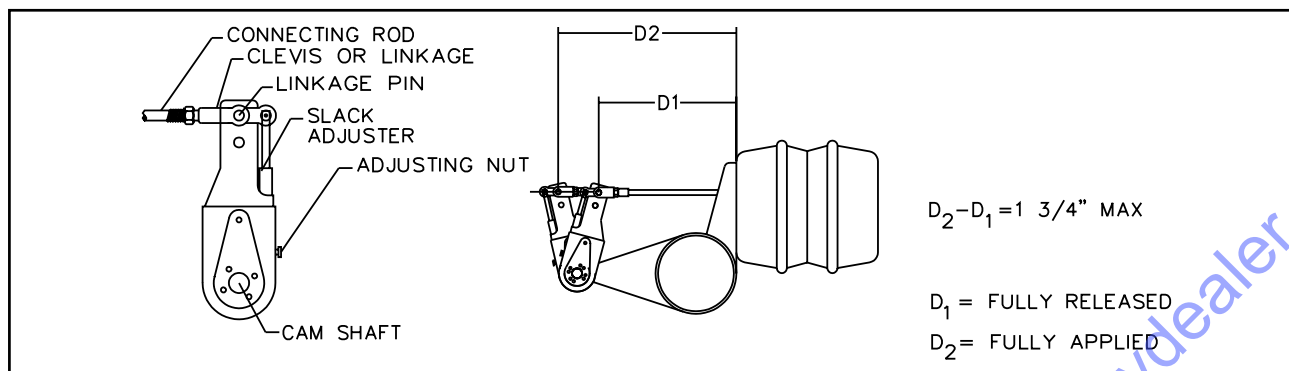

Figure 4-12 Checking Brake Adjustment
4. Disconnect the slack adjuster from the connecting rod by removing the clevis pin (**See Figure 4-12**).
4. Remount the brake chamber on the axle brackets and reconnect the air service hoses and the slack adjuster connecting rod (**See Figure 4-12**).
2. Measure the distance (D1) from the face of the brake air chamber to the center of the slack adjuster linkage pin (See Figure 4-12)
7. Place a 9/16" box end or socket wrench on the slack adjuster adjusting nut (**See Figure 4-12**), and push in on the locking sleeve.